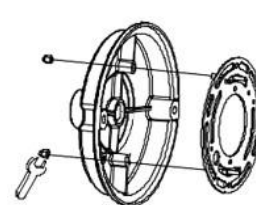

Fig 1
1. Turn OFF the main power from the breaker panel. Unscrew the cap nuts from the front of the mounting base. Remove the mounting plate from the back of the mounting base and set the mounting base and cap nuts aside (Fig 1).